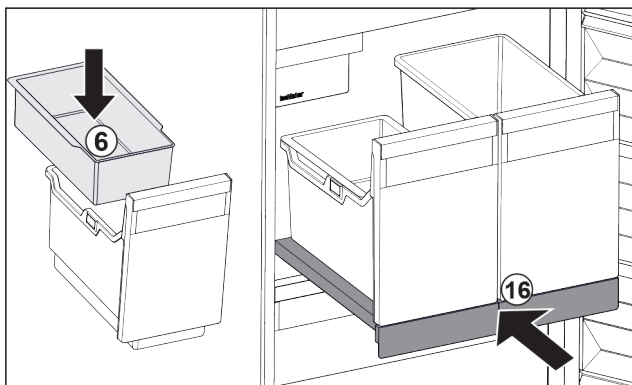

Fig. 101
- ▶ Insert hang-on tray Fig. 101 (6) for ice cubes.
- ▶ Slide in the pull-out board with (IceTower) container. Fig. 101 (16)